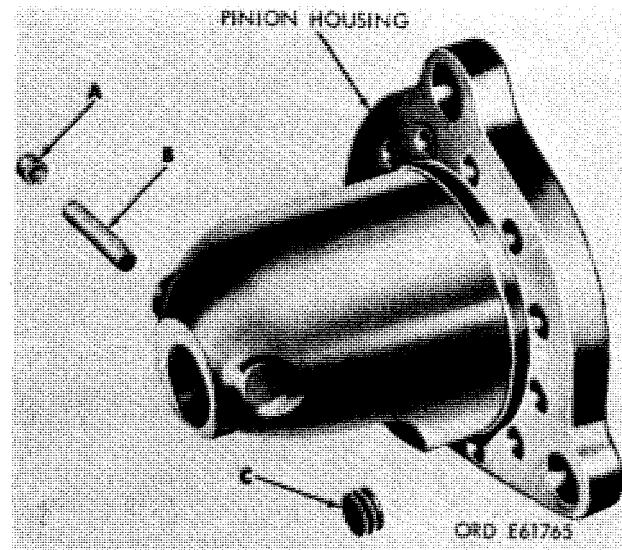

Figure 3-7. Removing or installing pinion housing oil wick.
b. *Disassembly.* Remove hex-socket head plug (A, fig. 3-7) and oil wick (B) from pinion housing. Remove six seal plugs (C) from housing. Do not attempt to remove bushing-type bearing since it should not be replaced unless it fails to meet inspection requirements (para 3-14b).